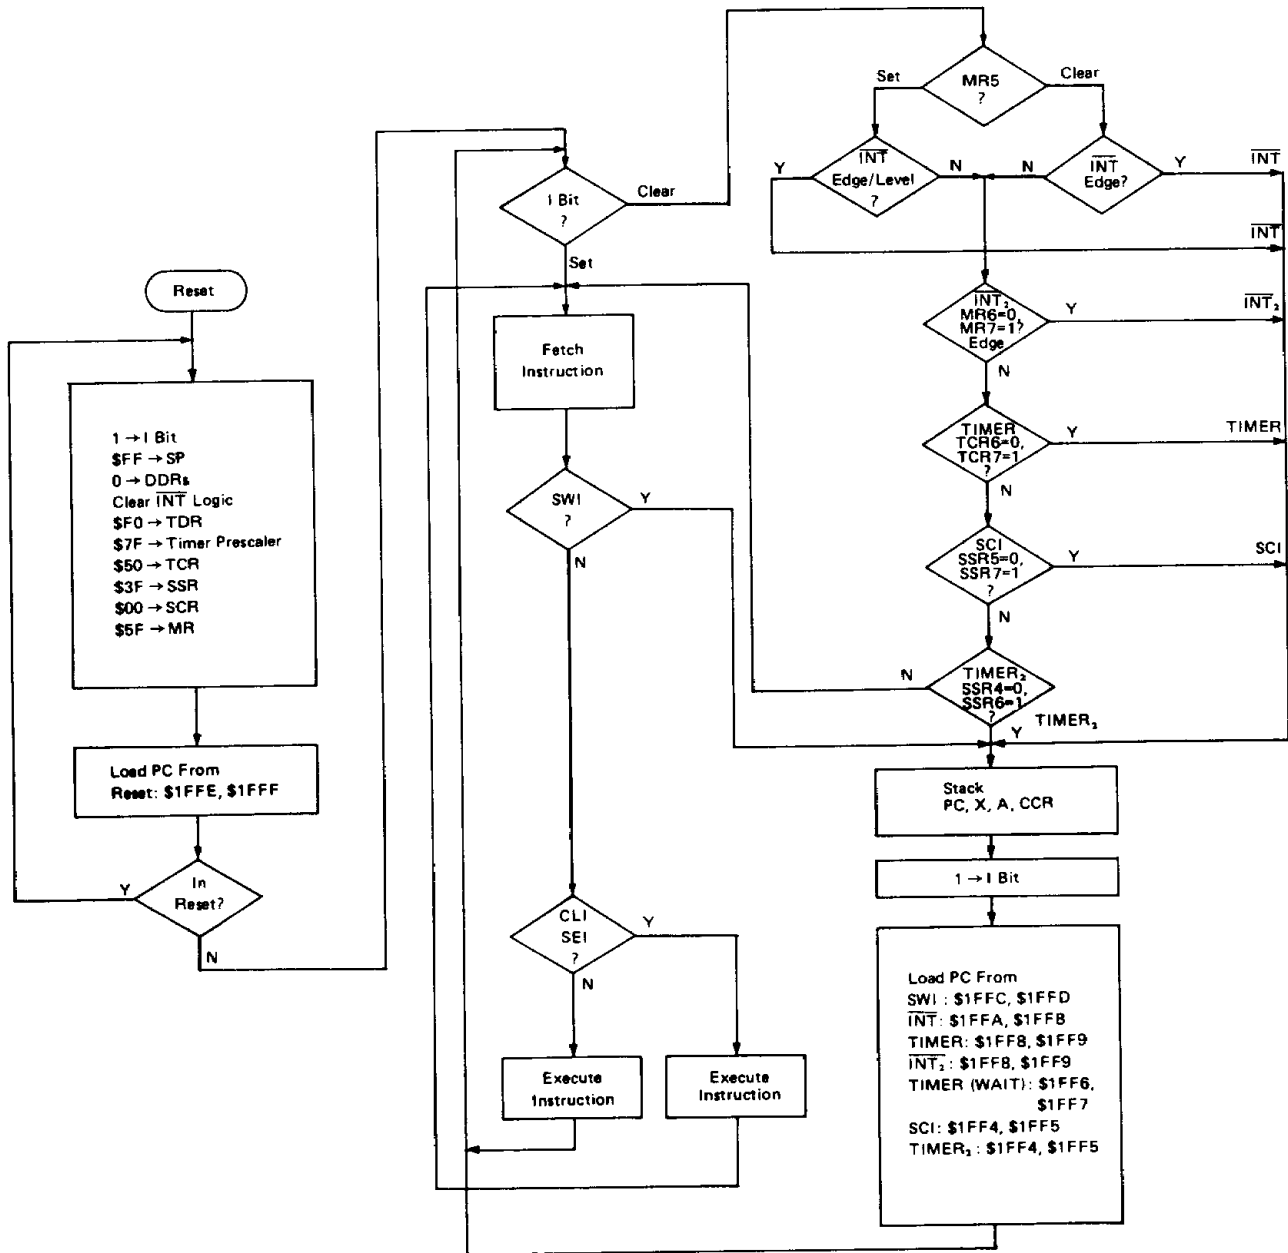
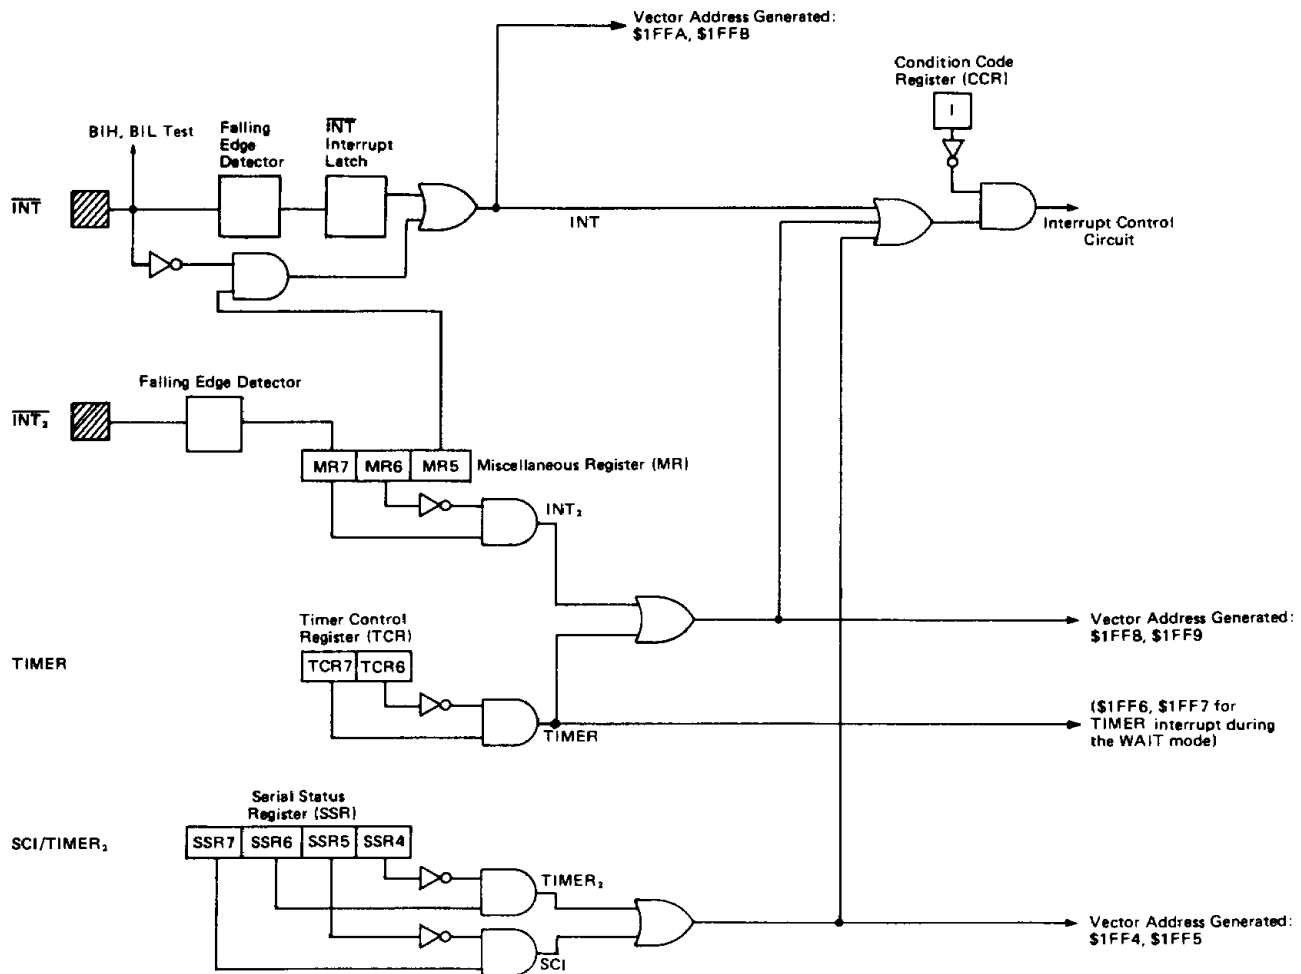

Figure 7 Interrupt Flowchart
Figure 8 Interrupt Request Generation Circuitry
A flowchart of the interrupt sequence is shown in Fig. 7. A block diagram of the interrupt request source is shown in Fig. 8.
In the block diagram of Fig. 8, the external interrupt $\overline{\text{INT}}_2$ is a falling edge trigger input, whereas, the external interrupt $\overline{\text{INT}}$ can be configured as a falling edge trigger input or a combination of falling edge and low level trigger input, depending on the status of bit 5 in the miscellaneous register (MR). When an interrupt request is detected at the $\overline{\text{INT}}_2$ or $\overline{\text{INT}}$ inputs, an interrupt request is generated and latched. The $\overline{\text{INT}}$ interrupt request is automatically cleared if jumping is made to the $\overline{\text{INT}}$ processing routine. Meanwhile, the $\overline{\text{INT}}_2$ request is cleared if "0" is written in bit 7 of the miscellaneous register.